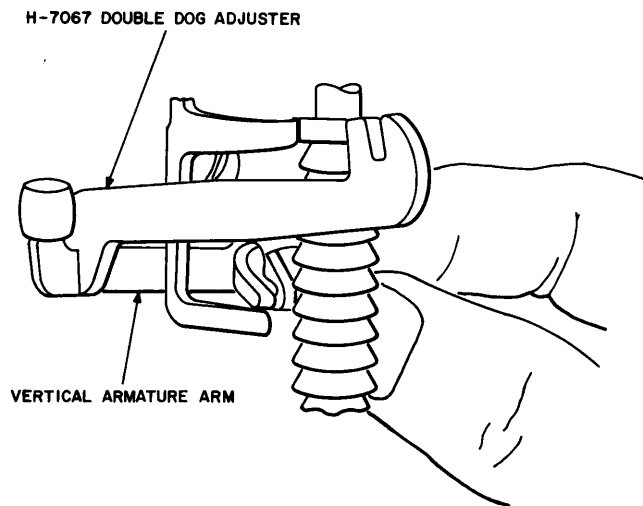

Fig. 17—Method of Bending Vertical Armature Assembly Equipped With Arm
(1) To replace the vertical armature assembly, lift the release armature from the lugs on the release magnet bracket and rotate the release armature so that it is at right angles to its normal position. In some cases it may be necessary to remove the release contact spring assembly to permit the armature to be lifted from the lugs on the bracket. If this is necessary, loosen the screw which mounts the release magnet bracket to the frame with the 563A and 564A offset screwdrivers. Remove the release contact spring assembly from the frame by drawing the assembly toward the front or rear of the switch, as required, to free the contact springs from the stud on the release armature. Take care not to break the leads on the spring assembly when the spring assembly is supported by them. Remove the vertical armature bearing pin clamp and vertical armature bearing pin as described in subparagraph 3.06(1).
(2) When the bearing pin is removed, remove the vertical armature from the right side of the switch by tilting it downward so the rear end of the armature drops below the lug on the frame which supports the bearing pin clamp. Turn the armature slightly to permit its removal. When the switch is equipped with an armature arm, the removal of the armature will be facilitated if the arm is bent in a direction away from the frame. To bend the arm, use the AEC Co H-7067 adjuster applied at the stud end of the arm while holding the armature with the fingers. (See Fig. 17.) Also in this case, replace the vertical interrupter spring assembly as described in Section 030-705-803 and the release magnet bracket as described in paragraph 3.26.
(3) Remove the protective lubricant from the bearings in the new armature with KS-7860 petroleum spirits. Place the vertical armature in position by reversing the above procedure, being sure that the pin in the frame engages the slot in the rear end of the vertical armature and that the pawl finger is over the lower lug of the stationary dog. Replace the vertical armature bearing pin from the left-hand side of the switch as described in subparagraph 3.06(2). Restore the release armature to position. Swing the vertical armature retractile spring into position so that it will engage the "T" head of the vertical armature spring adjusting screw. Remount the